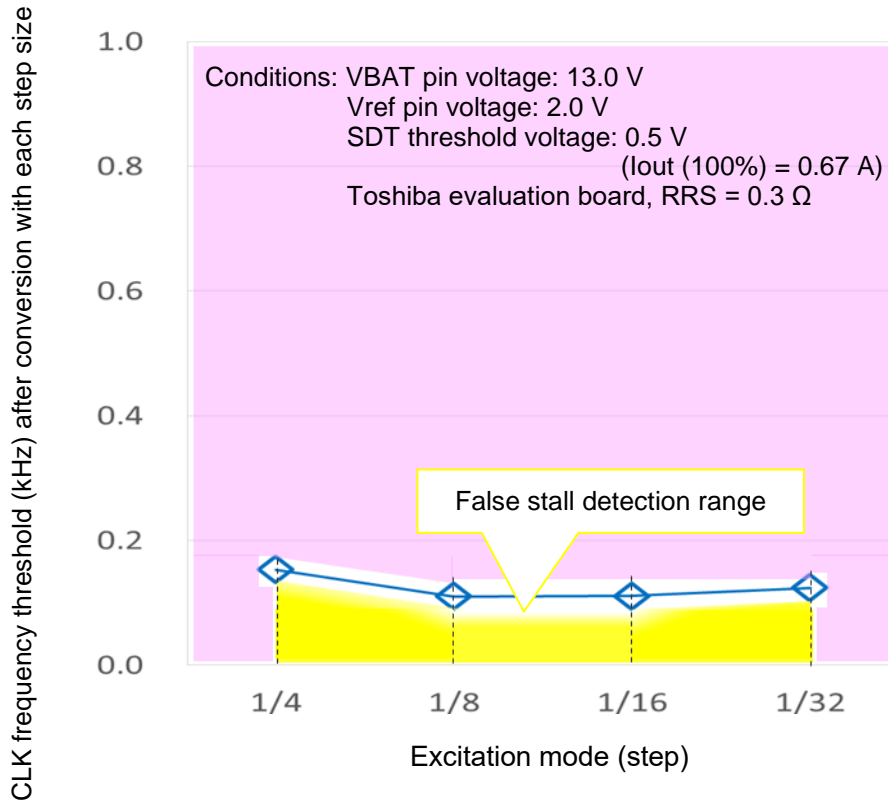

Figure 20. Excitation mode vs. CLK frequency threshold (for reference)
- As shown in Figure 20, the result is as follows: